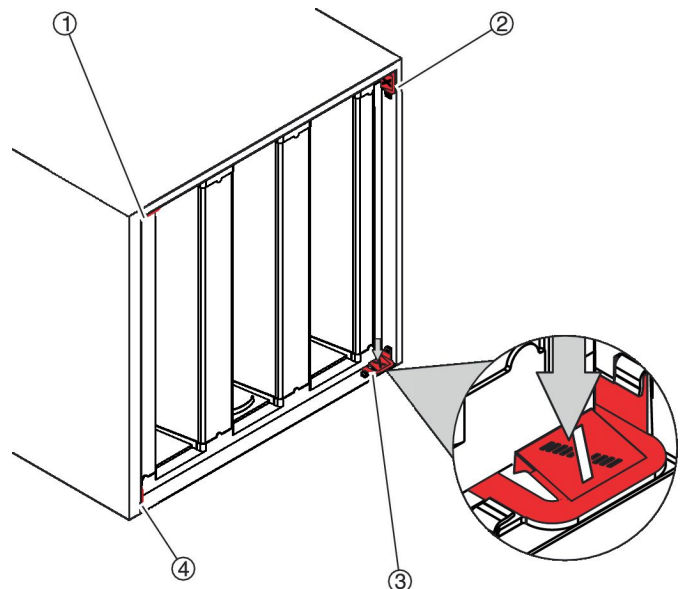

Fig. 20: Loosening the quick release fasteners
4. ▶ Press down the quick release fasteners (Fig. 20/1 to 4).